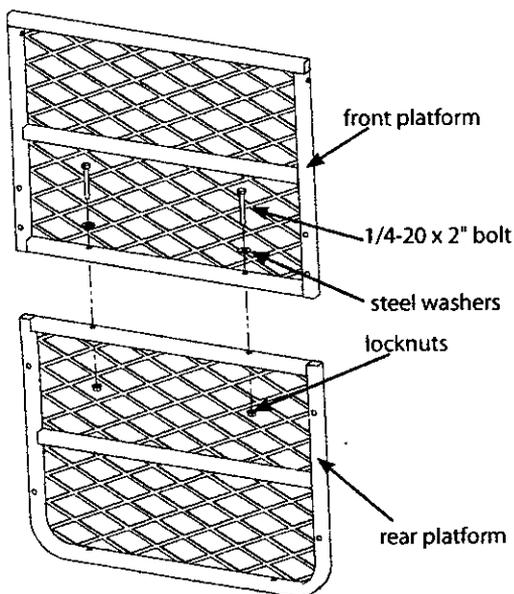

Figure 1
1. Attach the front platform (410050) and the rear platform (410058) together using (2) provided 1/4-20 x 2" bolts, locknuts and steel washers. SEE FIGURE 1. DO NOT tighten all nut and bolt assemblies completely!